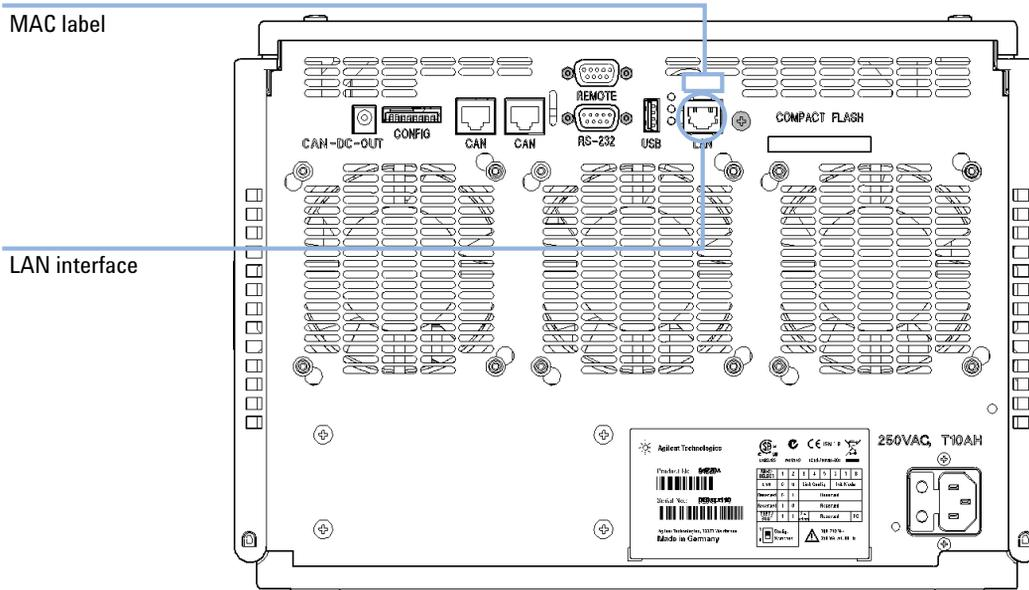

Figure 14 Location of LAN interfaces and MAC label
- 1 Note the MAC (Media Access Control) address for further reference. The MAC or hardware address of the LAN interfaces is a world wide unique identifier. No other network device will have the same hardware address. The MAC address can be found on a label at the rear of the module underneath the configuration switch (see Figure 14 on page 59).
- 2 Connect the instrument's LAN interface (see Figure 14 on page 59) to